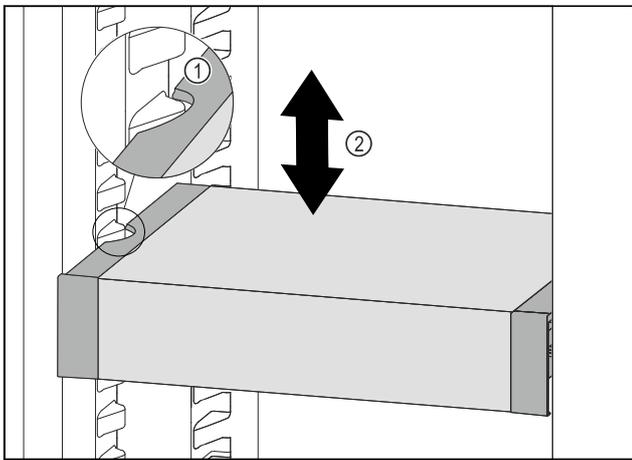

Fig. 103
- ▶ Pull VarioSafe forwards until the recesses in the side of the VarioSafe are at the level of the support rib in the refrigerator compartment. Fig. 103 (1)
- ▶ Move VarioSafe up or down in the refrigerator compartment until the desired height is reached. Fig. 103 (2)